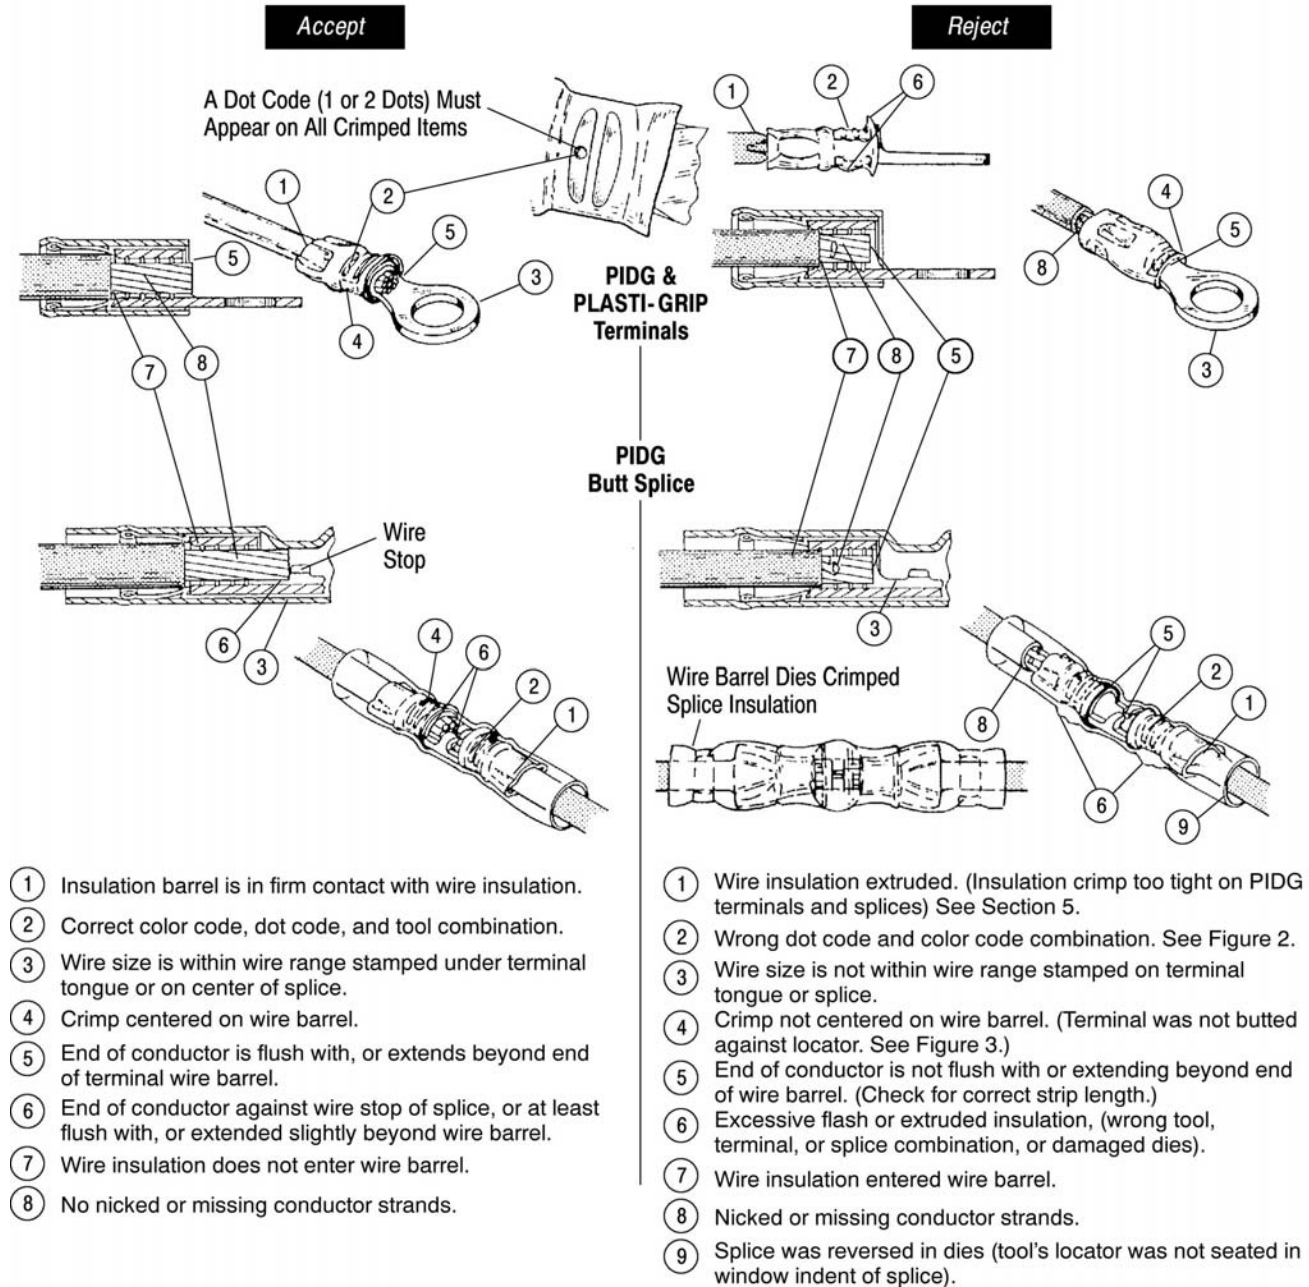
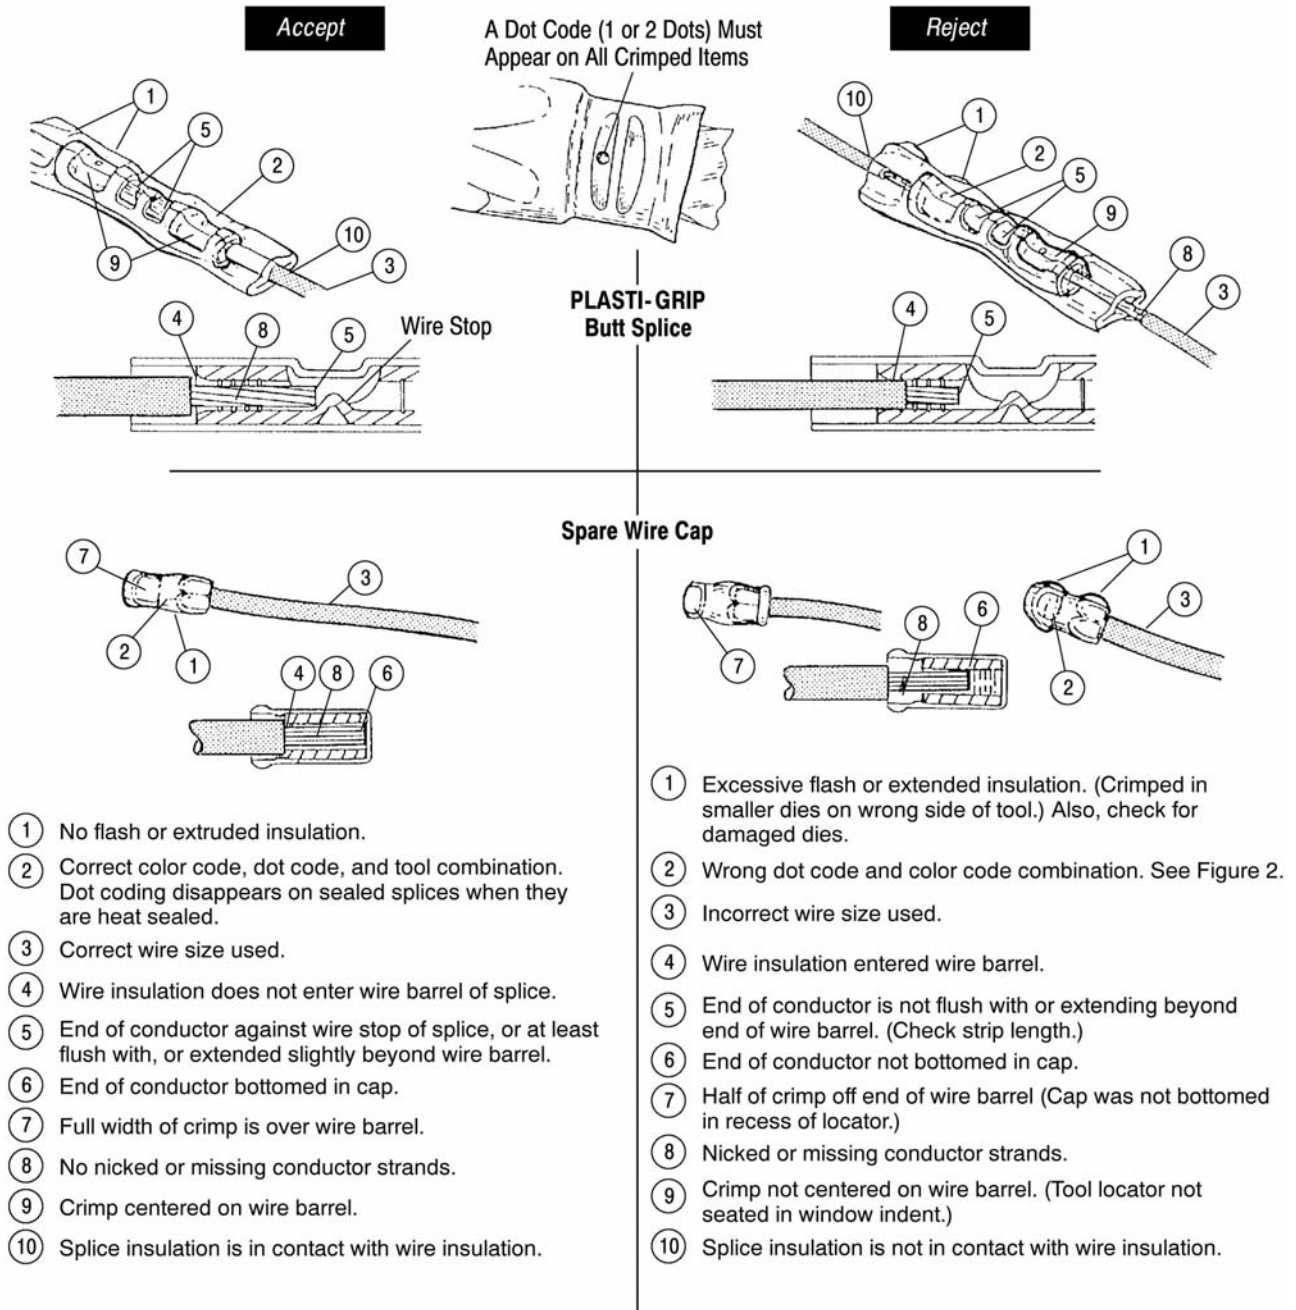

Figure 7
Figure 8
9. Refer to Section 7 and Figure 7 or Figure 8 for terminal or splice "Crimp Inspection" procedure.
8. Refer to Section 7 and Figure 8 for wire cap crimp inspection procedure.
Inspect crimped terminals, splices and spare wire caps by checking the features described in Figure 7 or Figure 8.